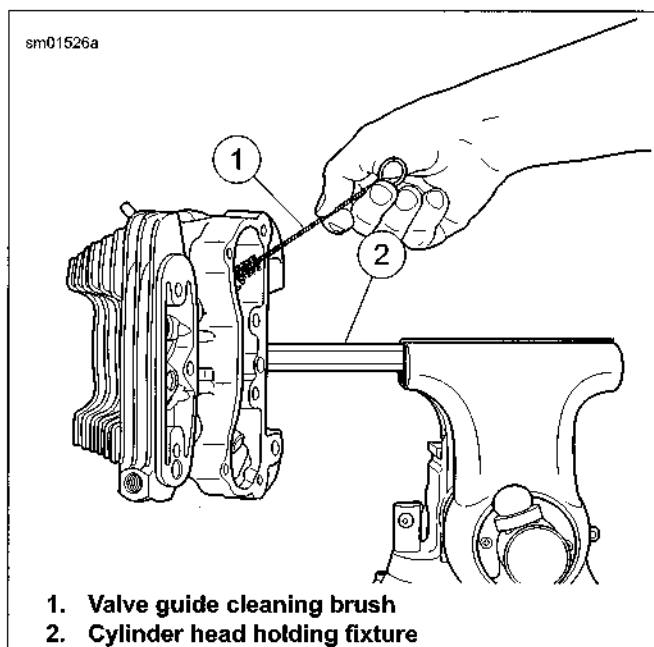

Figure 3-39. Scrubbing Valve Guide Bore
7. See Figure 3-39. Clean valve guide bore with VALVE GUIDE CLEANING BRUSH (Part No. HD-34751) (1).
10. See Figure 3-39. Clean bore with the VALVE GUIDE CLEANING BRUSH (1).